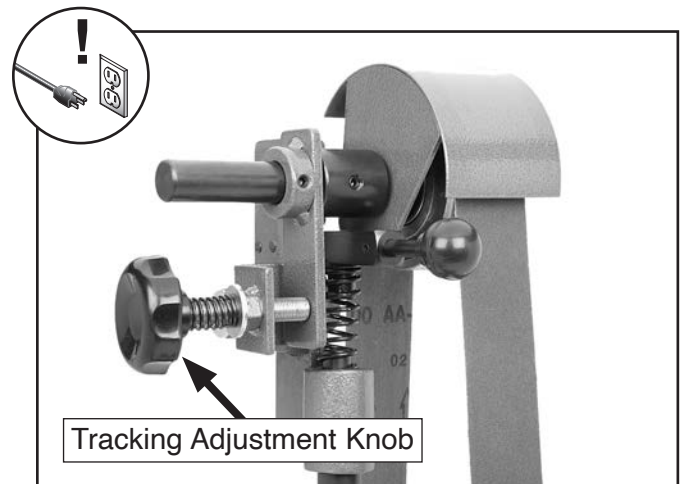

Figure 21. Location of tracking adjustment knob.
4. Make a small adjustment to the tracking adjustment knob, then rotate the drive wheel several times while observing the sanding belt (see **Figure 21**).